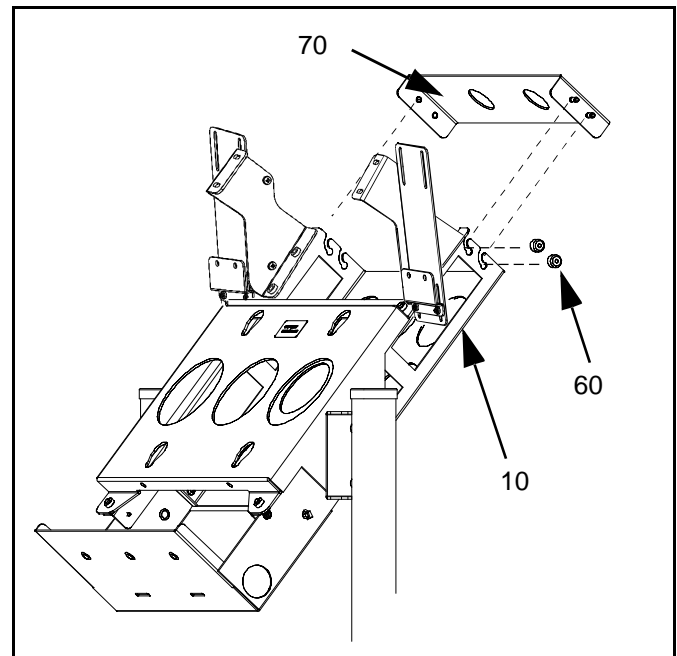

Figure 7: Assemble CPU Holder Top Cover
1. Place threaded stud on CPU cover (70) into slots in CPU holder assembly (10). (see Figure 7)
2. Secure CPU cover (70) to CPU holder assembly (10) using four thumb nuts (60).